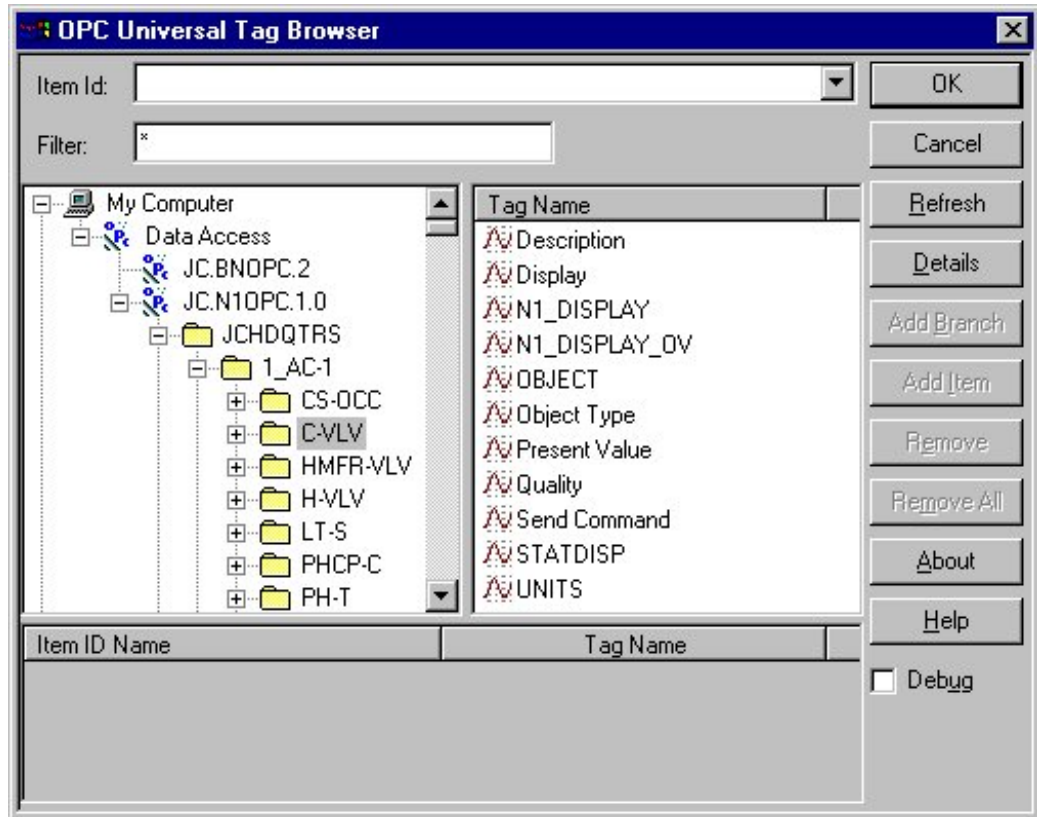

Figure 10-6: OPC Universal Tag Browser Dialog Box
1. Click on My Computer in the OPC Universal Tag Browser and then OPC Data Access. This expands to give you a listing of OPC Data Access servers (Figure 10-6). Table 10-7 explains the OPC Universal Tag Browser fields.